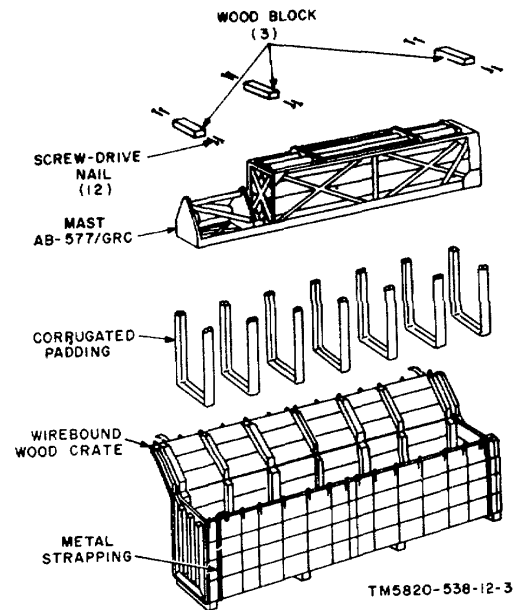

Figure 2-3. Typical packaging, launcher and mast section carrier.
(2) Set an open mast section coupler over the top of the mast section (B, fig. 2-3).
(3) Place the AT-9031G on the end of the mast section. Rotate the AT-903/G until the key in its base seats in the slot in the mast section; tighten the mast section coupler. The mast section is securely clamped if the mast section coupler cannot be manually turned about the mast joint. If the mast section coupler can be turned, replace it with another coupler and again test to ensure a securely clamped joint. If changing coupler fails to produce a secure joint, the lower mast section may be defective and should be replaced.
(4) Proceed to f below.
(3) Set the antenna adapter on the end of the mast section (B, fig. 2-3).
(4) Rotate the antenna adapter until the key engages the slot in the top of the mast section and prevents further rotation.